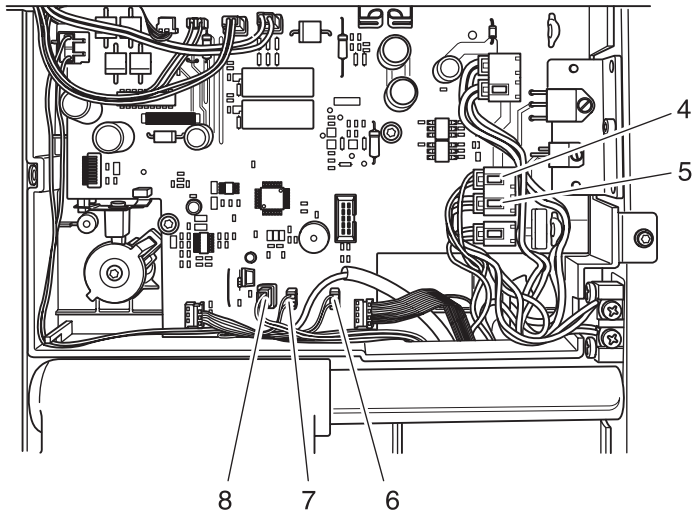

Fig. 13f
- Connect plugs 6 to 8 (fig. 13f).